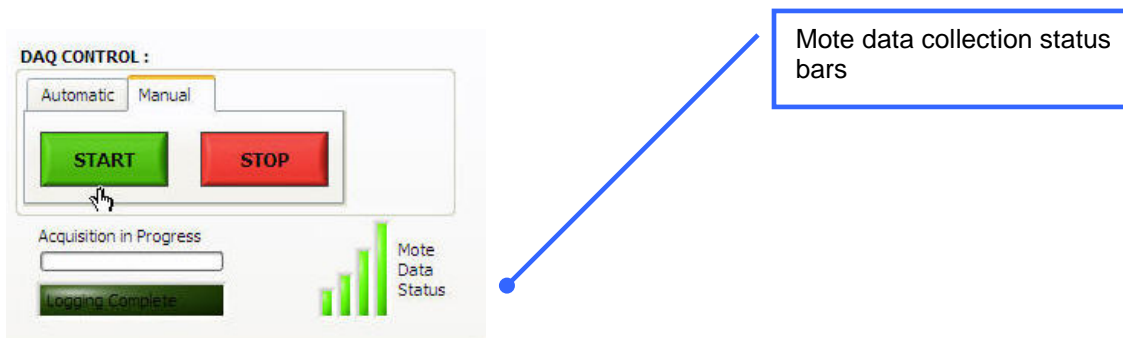

Figure 19: Motes status bars
7. Performance of the data transfer between the DustBox logging database and the Cart laptop can be monitored via the Mote Data Status bars on the DAQ screen as shown in Figure 19. These bars represent a 2 minute window of requests sent to the DustBox from the Cart Laptop LabView; each unlit bar represents an error in data transfer for a single request within the 2 minute window, the more unlit bars the more errors. If all four bars are unlit it is likely that the DustBox is not responding and should be reset (shutdown and restarted per instruction. These errors result in missing data in the collection record but this fact is not reflected in the Test Setup screen, the data shown will be old depending on when the error occurred.